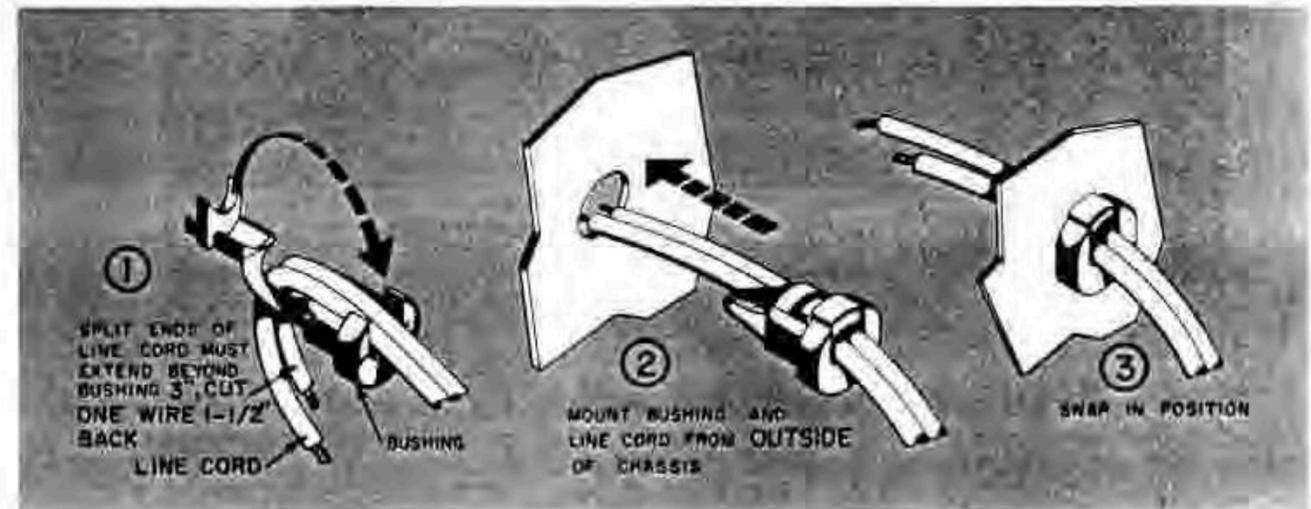

FIGURE 19. LINE CORD MOUNTING
- ✓ Line cord and bushing. Mount as shown in Figure 19. Cut 1 $\frac{1}{4}$ " from one lead. Strip the insulation back $\frac{1}{4}$ ". Solder the long line cord lead to terminal 5 of TS-7 (2 wires). Solder the short line cord lead to terminal 2 of the fuse holder.